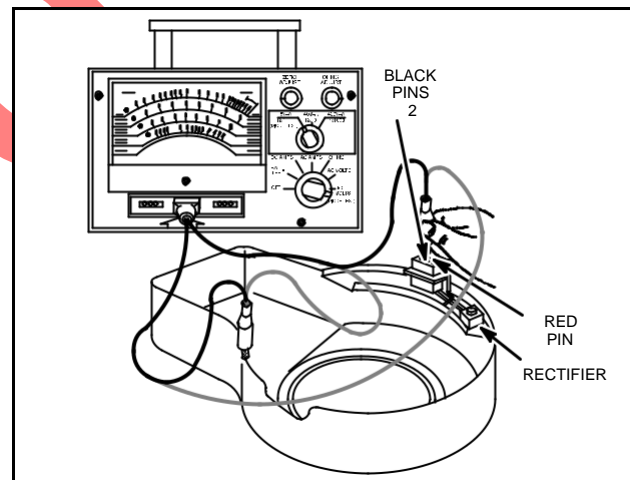

Fig. 763 – TESTING RECTIFIER
4. Attach RED test lead clip to a clean, unpainted area on blower housing, Fig. 763.